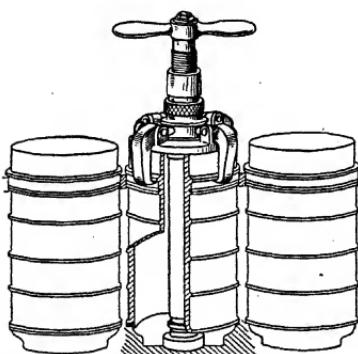

FIG. 26.—Extracting a cylinder liner.
4. Immerse the block in water at 167°F. and, using the extractor (Fig. 26) as illustrated, withdraw all liners as quickly as possible.